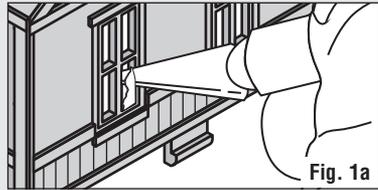

Fig. 1a
- Remove mold flash from Building Shell ①, Bay Window ②, Roof ③, Platform ④ and Details using a hobby knife and/or sandpaper (**Fig. 1a**). Do not remove Details from sprues at this time.